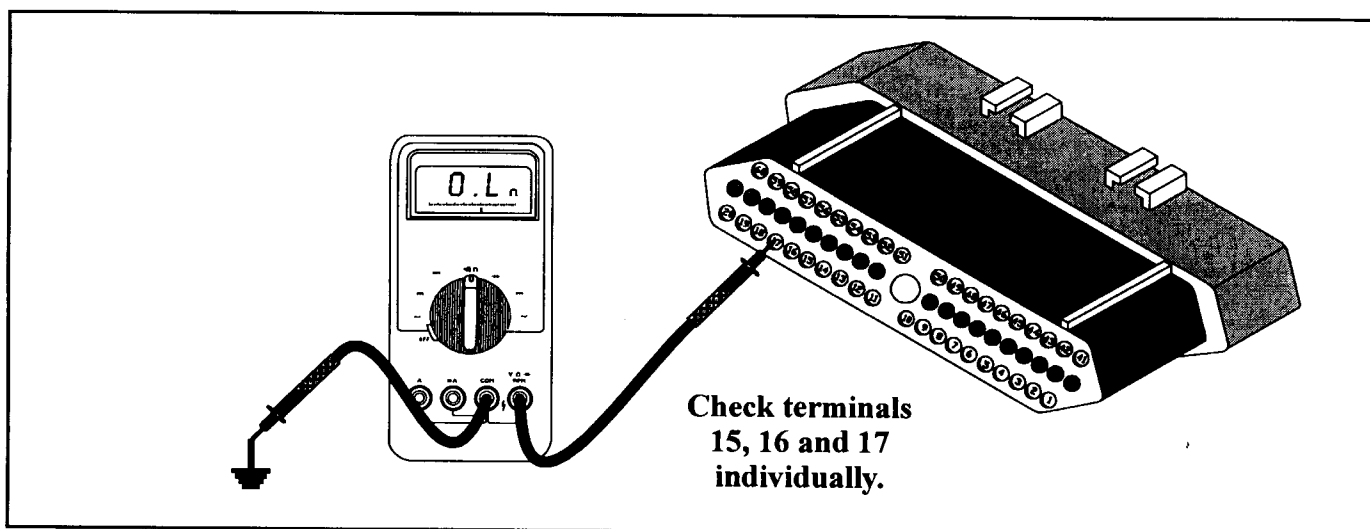

Figure 16
- Keep the EATX relay unplugged. Unplug both the TCM and solenoid body connector. Place the DVOM to an ohm setting. Maintain the negative meter lead to a good known ground. With the positive meter lead carefully probe terminals 15, 16 and 17 in the controller connector as shown in Figure 16. An open circuit should be seen on all three wires. If an ohm reading is seen, a short to ground has occurred on the wire revealing the reading and will need to be repaired. If an open circuit is seen on all three wires, go to the next step.